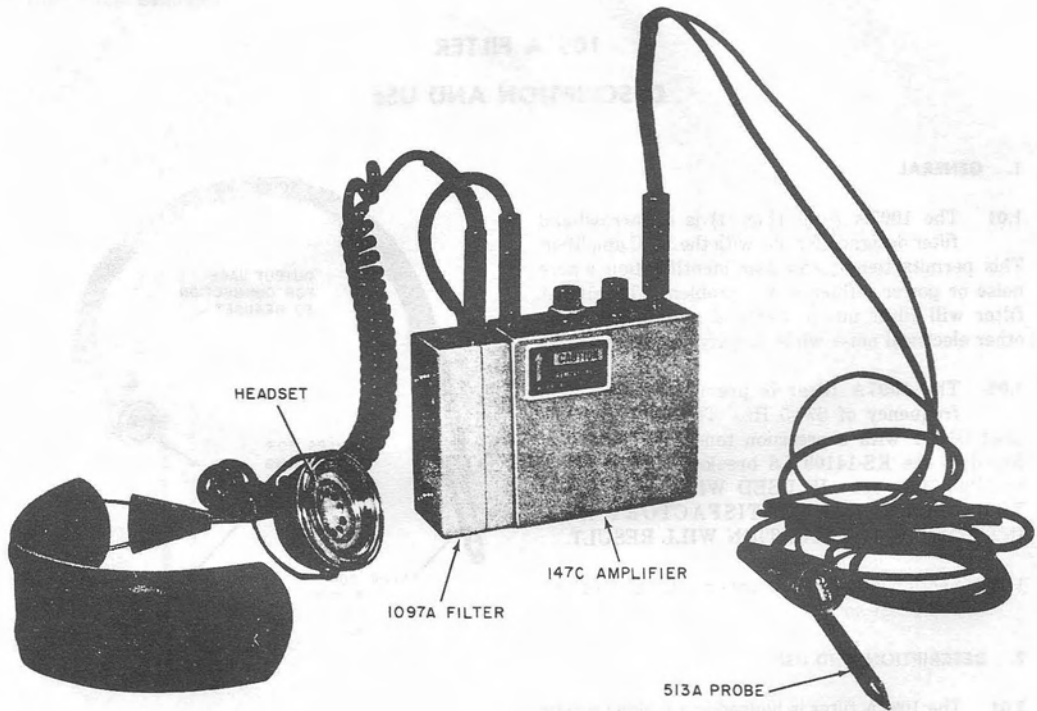

Fig. 2—1097A Filter Attached to 147C Amplifier
2.02 The 1097A filter contains no batteries but is powered from the 147C amplifier through the REC jack. Both units are turned on by plugging the 1097A filter into the REC jack of the 147C amplifier as shown in Fig. 2. Operation of the 1097A filter requires a 147C amplifier because the 147B amplifier DOES NOT supply the necessary battery voltage. TO CONSERVE THE BATTERY, UNPLUG THE 1097A FILTER FROM THE 147C AMPLIFIER WHEN THE UNITS ARE NOT BEING USED.